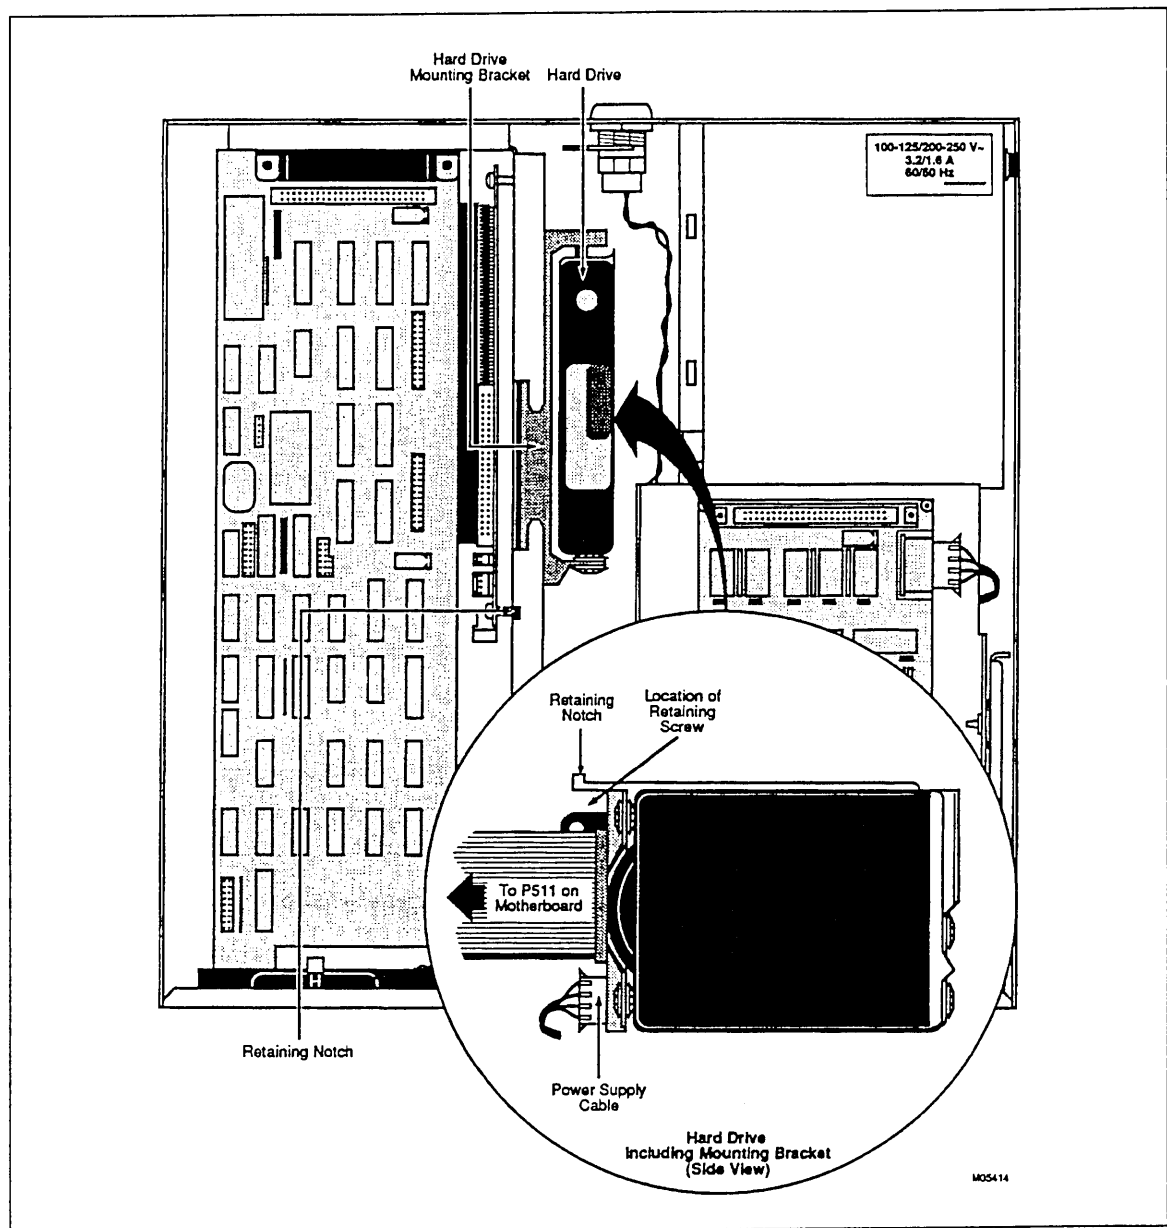

Figure 7-11. Connections for Hard Disk Drive (CC598-D/E)
The hard disk drive within the CCU of a CC598-D/E console is mounted vertically in the center of the CCU cabinet (see figure 7-11). Use the following procedure to remove and replace the disk drive within the CCU of a CC598-D/E console.
- ___ 4. Remove the small retaining screw from the upper-left corner of the hard drive mounting bracket (see figure 7-11). Retain the Phillips screw for reassembly.
- ___ 5. With a small screwdriver, press down on the retaining notch referenced in figure 7-11, then gently slide the hard drive assembly towards the front of the CCU. The assembly moves roughly 1/4 inch until it can be pulled away from the CCU chassis. Remove the hard drive assembly from the CCU and place it on an antistatic work mat.